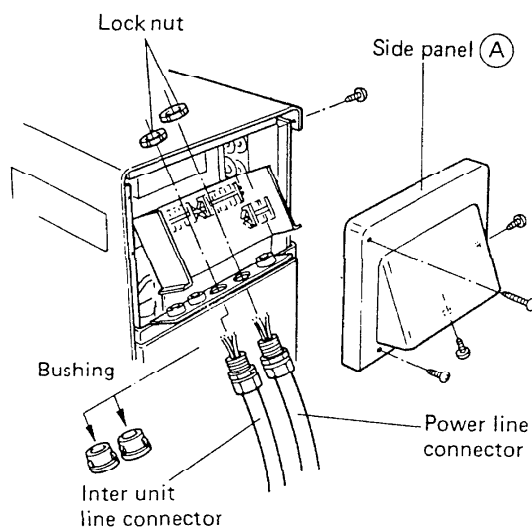

Fig. 7
**NOTE** When working only on the wiring, it is possible to gain access to the wiring terminals by simply removing the Side Panel (A). Fig. 7.